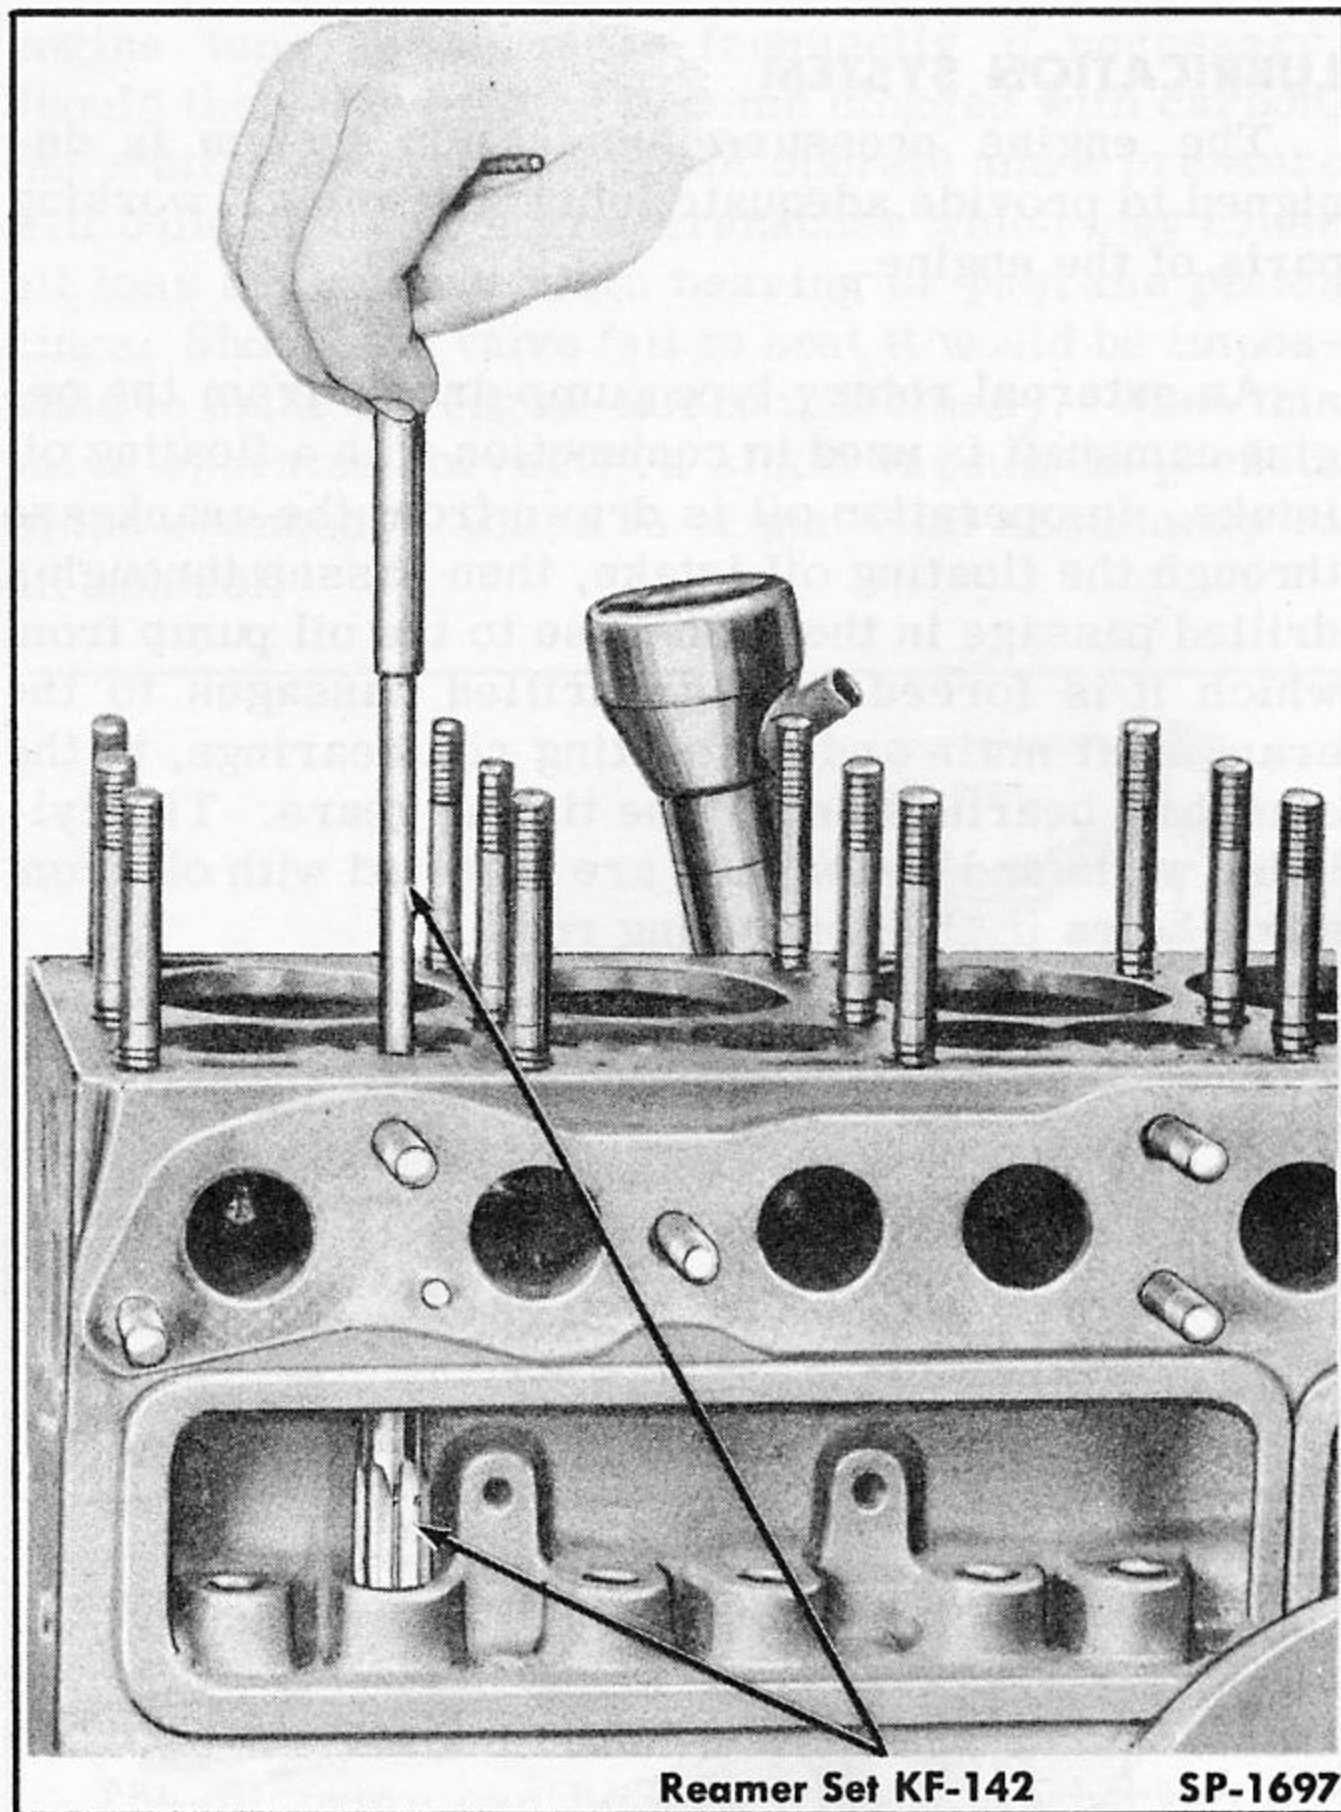

Fig. 45—Reaming Tappet Bores
6. Inspect each tappet carefully. Worn, scored or damaged tappets must be replaced. Standard tappet diameter is $.6240 - .6245$ of an inch. Tappets are also available in $.001$, $.002$ and $.005$ inch oversize. Proper tappet fit may be determined by rotating tappet in bore; if properly fitted, a slight drag should be evident. If tappet is loose, selectively fit another standard or an oversize tappet, or use Valve Tappet Reamer Set KF-142 to ream the bores to accommodate the next oversize tappet (Fig. 45).